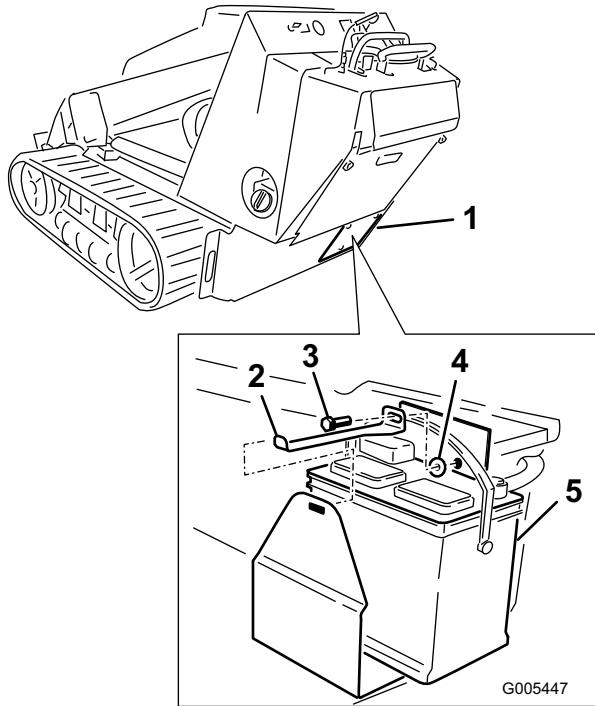

Figure 7
3. Install the battery into the machine (Figure 7).
4. Install the battery access cover (Figure 7).